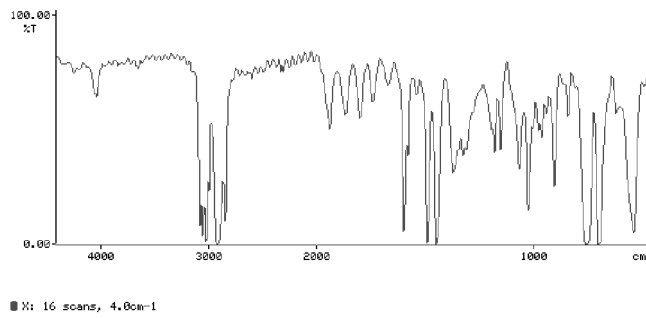

Figure 3-9 Viewing One Spectrum
- The status line (below the spectrum) reports the region that you are viewing, the scan conditions, and any processing (such as **smooth**) that the spectrum has undergone (Figure 3-9). Also, a comment is displayed in this line if one has been attached to the spectrum.